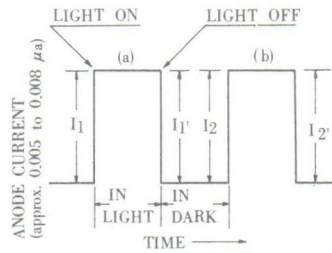
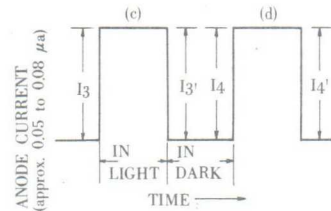

FIG. 2
FIG. 3
2. Anode current* (A) 0.005 to 0.008 μ a
- (B) 0.05 to 0.08 μ a
* The light intensity was adjusted so as to take the anode current (A) and (B) respectively.
3. The light pulse of from about 30 to 40 seconds interval was supplied to the tube as in the Fig. 2 and Fig. 3.